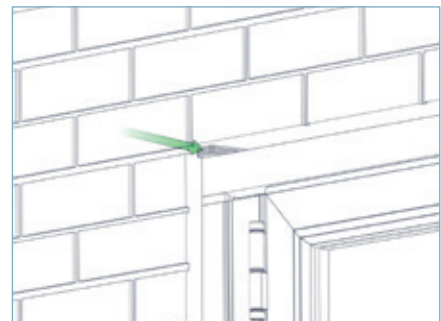

FIG 4C
▶ 4.7. Install the outer frame and insert frame packers above the top track at each end, compressing tracks, jambs and cill (if fitted), together closing all unwanted gaps and temporarily holding the frame in position as shown in FIG 4C.